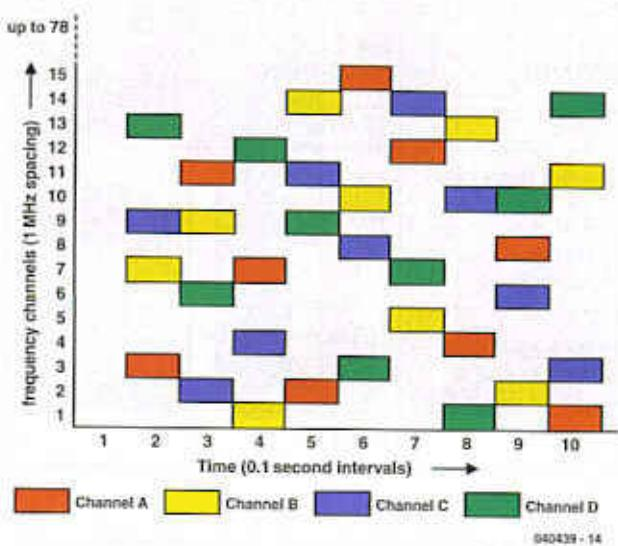

Figure 4. Frequency hopping allows each frequency to be used by several channels.
The other important technique besides DSSS is frequency hopping (FH). As the best-known representative of this technique, Bluetooth divides the ISM band between 2402 MHz and 2483.5 MHz into 79 channels, each with a width of 1 MHz. The signal hops (jumps) between channels in a cyclic pattern at the rate of 1600 hops per second. This means that typical narrow-band interference sources can cause only minor damage to the transmitted data. **Figure 4** shows how several Bluetooth nodes can share the same frequency band using different frequency-hopping sequences. In principle, the frequency-hopping sequence for the FH technique corresponds to the PN code for DSSS, since in each case mutual interference among the individual nodes is prevented by using a different spread-spectrum sequence for each node.